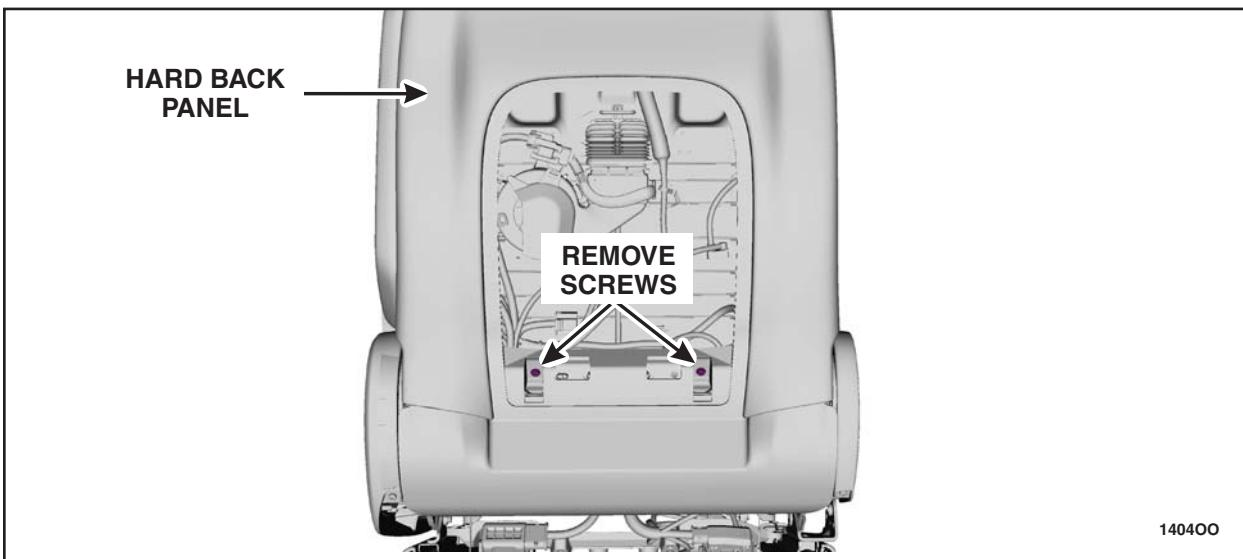

FIGURE 5a
a. Remove the two screws from the rear of the hard back panel. See Figure 5a.
15. Install the hard back panel onto the backrest frame. See Figure 5a and 5b.